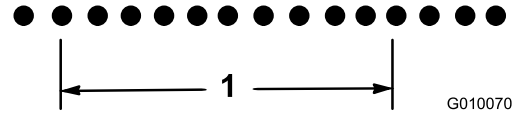

Figure 65
18.8 divided by 10 is 1.88, hole spacing is short by .12 inch from nominal (Figure 65).